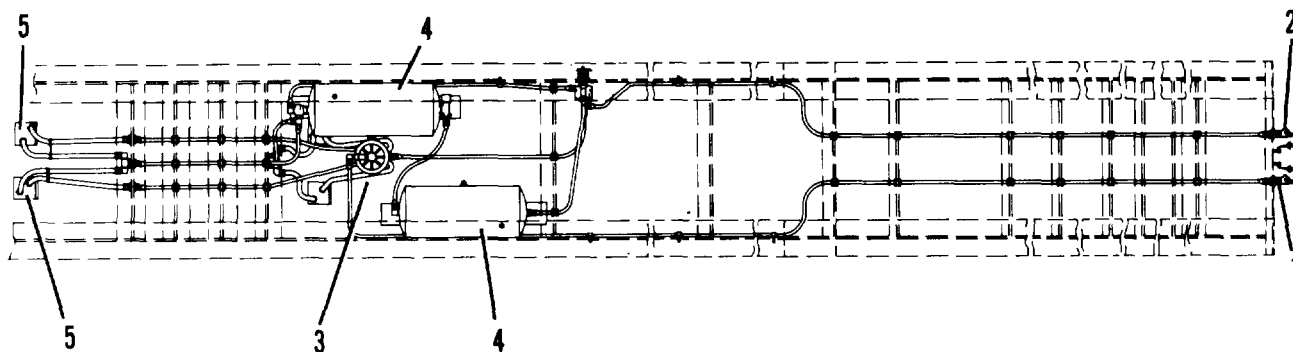

Figure 4-22. Schematic diagram of brake air system
b. Type of Brakes. The brakes are the air actuated type (figure 4-22). Air pressure is used to operate the mechanical internal brakes at the semitrailer wheels. The brakes are applied in proportion to the foot pressure applied to the brake pedal of the towing vehicle.
c. Brake System. The brake system consists of internal brakes, slack adjusters, service air line (1), emergency air line (2), emergency relay valve (3), air reservoirs (4), brake chambers (5) and connections.